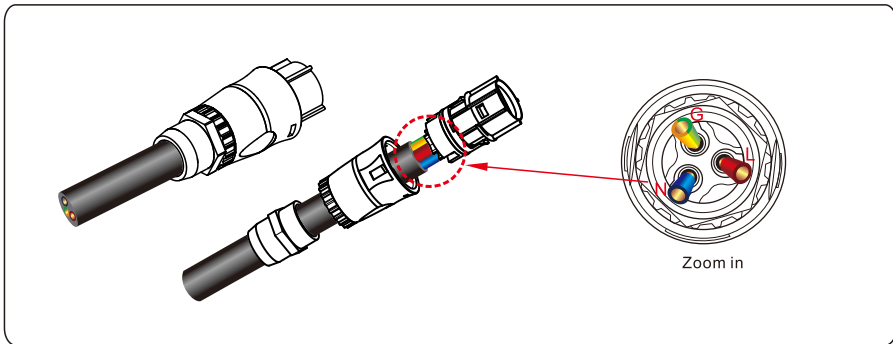

Figure 5.6 Connecting connector
Step 2 Insert the exposed core wires through nut of AC terminal, sleeve in the intermediate, L terminal of line wire, N terminal of neutral wire, into E terminal of Earth Wire, tighten the screw. The required torque is 0.8 N·m. After fixing the cables, tighten the nut and sleeve in the intermediate, as shown in Figure 5.6.